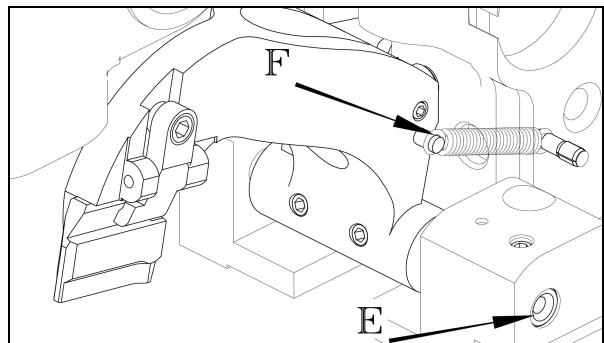

Fig 3
4. Install the shaft (E) in the cutting lever as in Fig 3 and spring (F). Align the cutting lever (see P32).